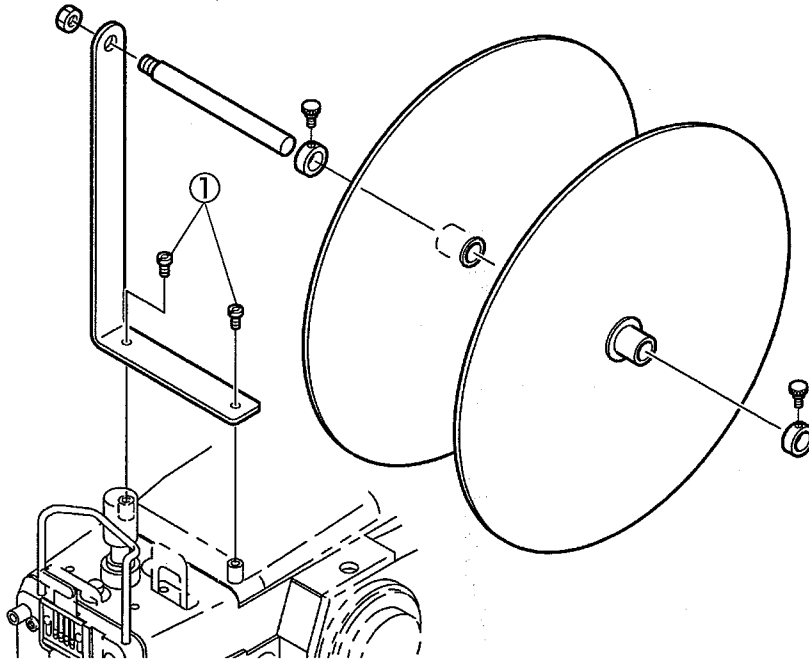

Fig. 1
Assemble the tape reel and install it onto the arm top cover with the screws ① by referring to Fig. 1.